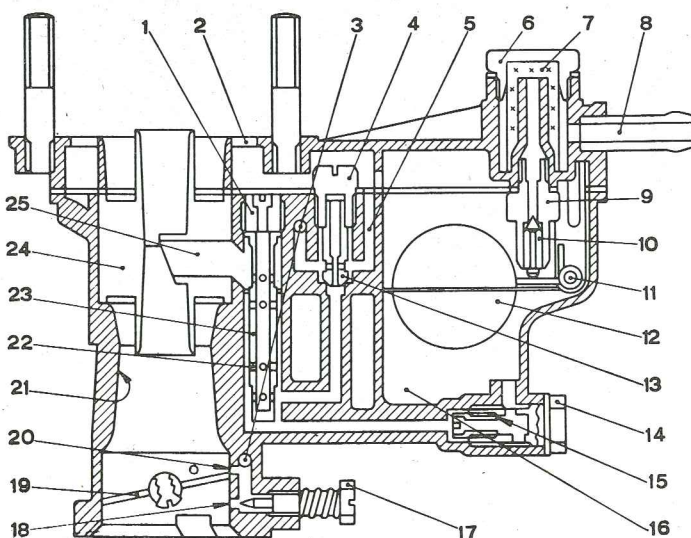

Fig. 116.
Referring to the diagram (fig. 116) the air from above, flows through Venturi (24) where it mixes with the fuel issuing from nozzle (25) and is then conveyed to cylinders through primary Venturi (21) and throat, where throttle (19) is adjusting the flow.